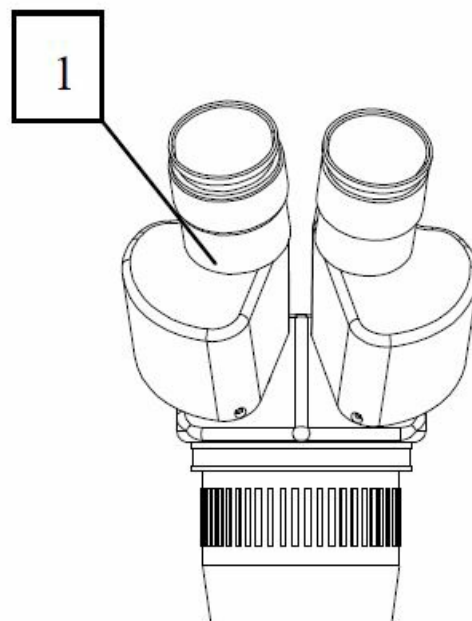

Figure 3
2. Observe the specimen through the left eyepiece and adjust the diopter ring 1 until the image is clear. (Figure 3)